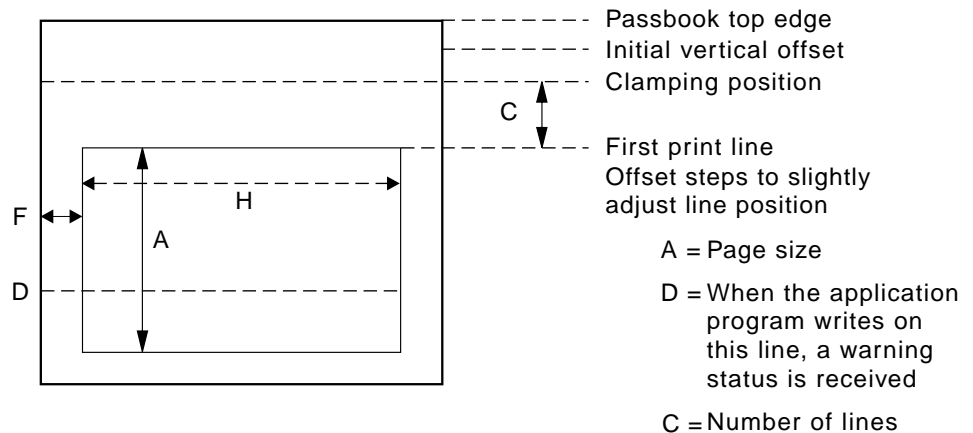

Figure 12. Document Dimensions for IBM 4009, 4712, 4722, 4772, 9068 and 9069 Printer Customization
**FOLDBEG** Is an optional keyword to define the last line or character position before the center-fold skip for horizontal or vertical passbooks (refer to 'D' in Figure 12 on page 319.).